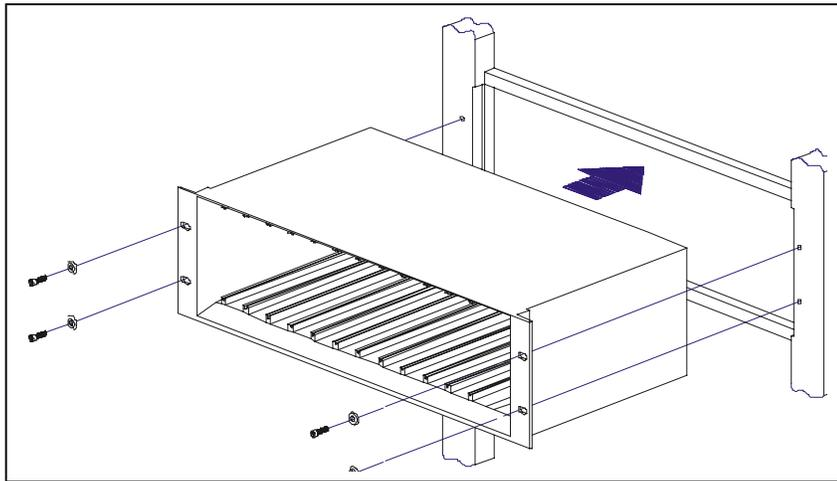

Figure 3.2. Rack Mounting
1. Position the Model 3000 Rack so the mounting “ears” of the Rack frame are aligned with the mounting holes of the chassis. (see Figure 3.2 below)